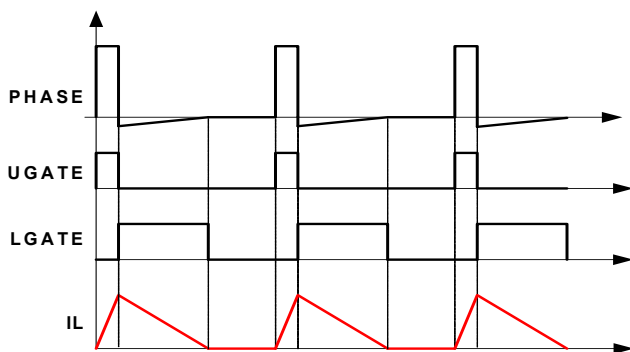

FIGURE 10. DIODE EMULATION
The ISL6277 can operate in diode emulation (DE) mode to improve light-load efficiency. In DE mode, the low-side MOSFET conducts when the current is flowing from source to drain and does not allow reverse current, thus emulating a diode. As Figure 10 shows, when LGATE is on, the low-side MOSFET carries current, creating negative voltage on the phase node due to the voltage drop across the on-resistance. The ISL6277 monitors the current by monitoring the phase node voltage. It turns off LGATE when the phase node voltage reaches zero to prevent the inductor current from reversing the direction and creating unnecessary power loss.
If the load current is light enough, as Figure 10 shows, the inductor current reaches and stays at zero before the next phase node pulse, and the regulator is in discontinuous conduction mode (DCM). If the load current is heavy enough, the inductor